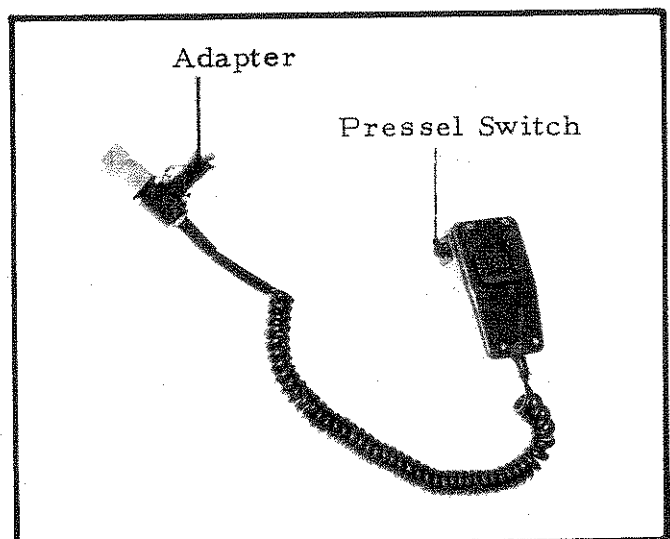

FIG 16
27. Microphone, Dynamic, M-F1. (FIG 16) This hand microphone is fitted with a pressel switch at the side, and an integral retractile cable and connector. The connector incorporates an adapter for connection of the Headset, H-F1 (see para 25 and Fig 14B).